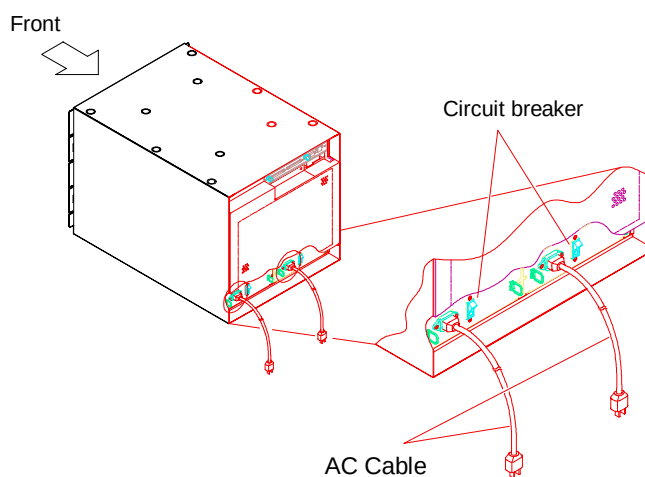

Figure 3.3.1 AC Cable Connection
- (1) Verify that the breaker (switch at the rear side) is set to “O” (Off). Then, attach AC cable. (See Figure 3.3.1.)
- (2) Turn on AC power.